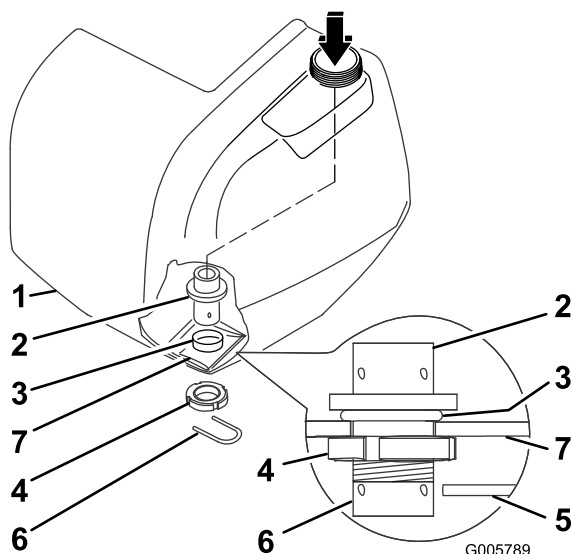

Figure 12
8. Secure the new bulkhead fitting to the rinse tank using the plastic nut in loose parts as shown in Figure 12.
Note: The seal must be seated between the fitting and tank around the entire circumference of the hole edge (Figure 12).
Note: Orientate the bulkhead so that the retainer fork will come from the front to the back of the machine (Figure 12).